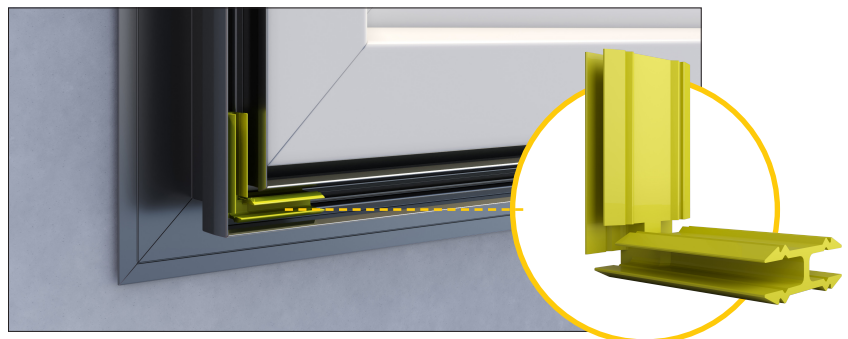

Figure 3
3. Snap FP Corner Key into the receiving engagement of the mitered backplates (Figure 3)